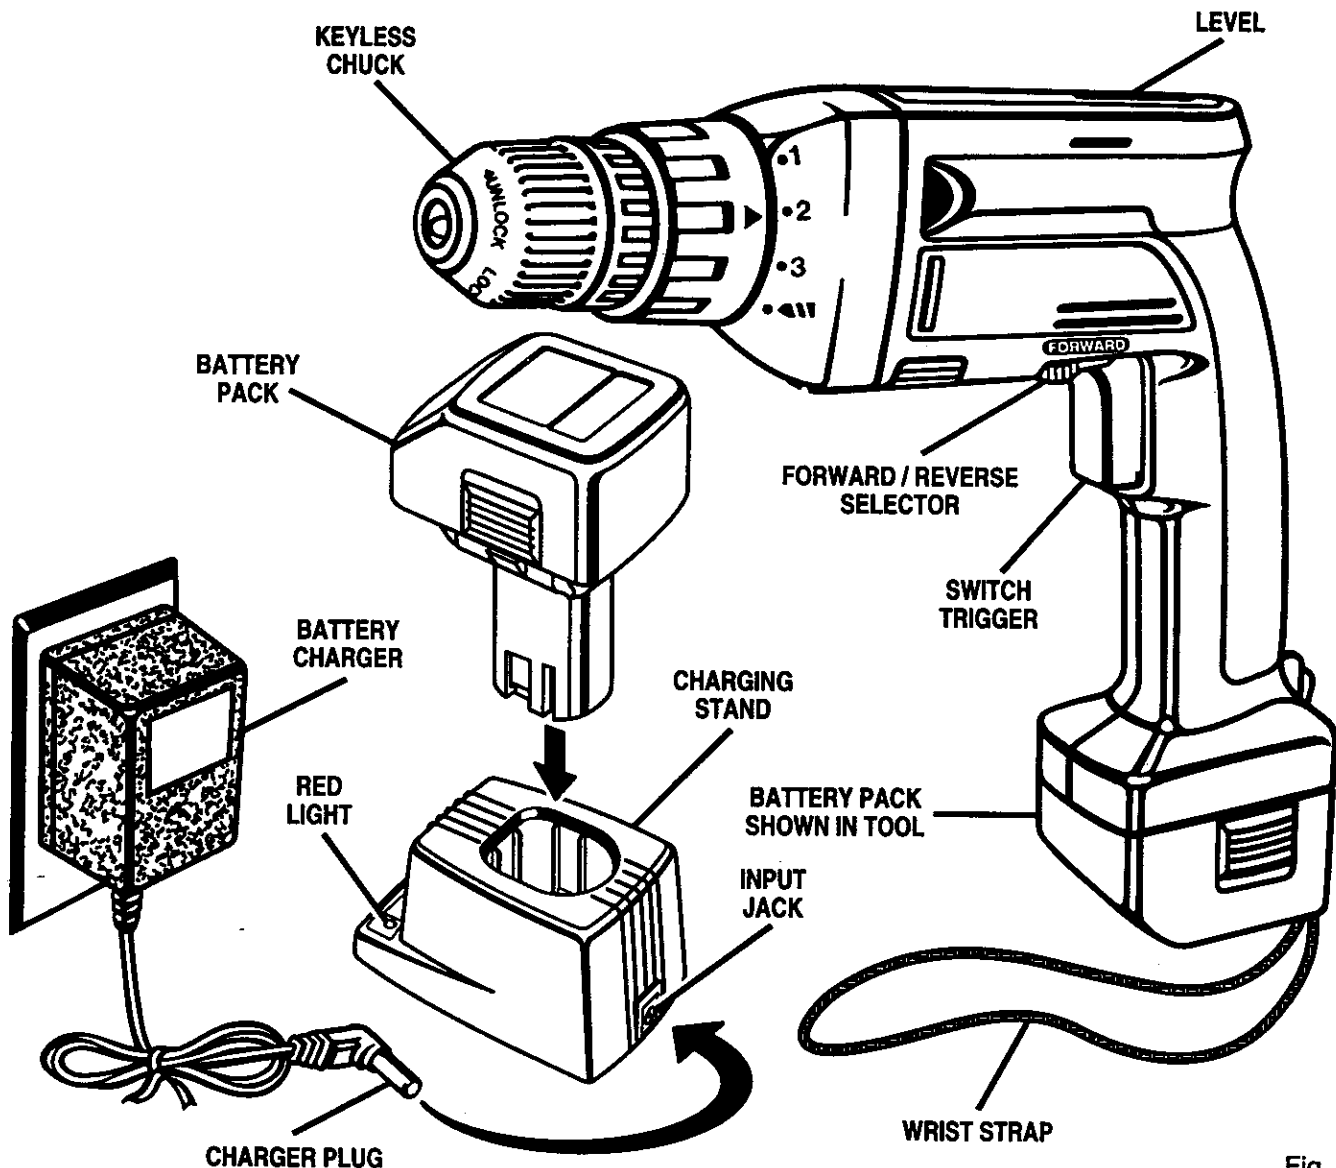

Fig. 1
See Figure 1.
- Connect charger to charging stand by inserting charger plug into input jack. *See Figure 1.*
- Place battery pack in charging stand. Align raised rib on battery pack with groove in charging stand. *See Figure 1.*